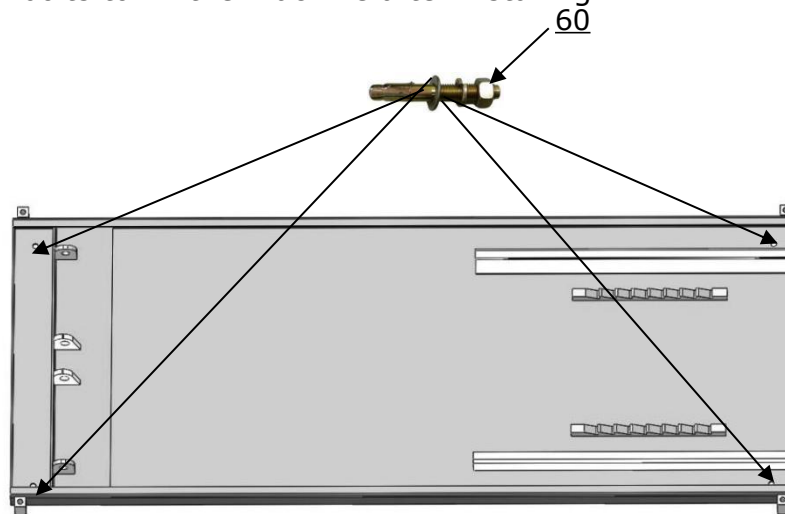

Fig.21
1. Install anchor bolts. (see Fig.21)